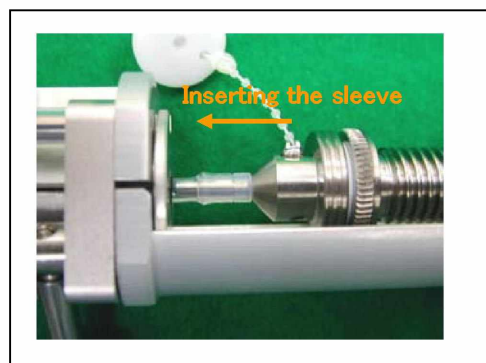

Fig. 66 – Inserting the sleeve
- Turn the grip clockwise to insert the sleeve into the tube (see Fig. 66).